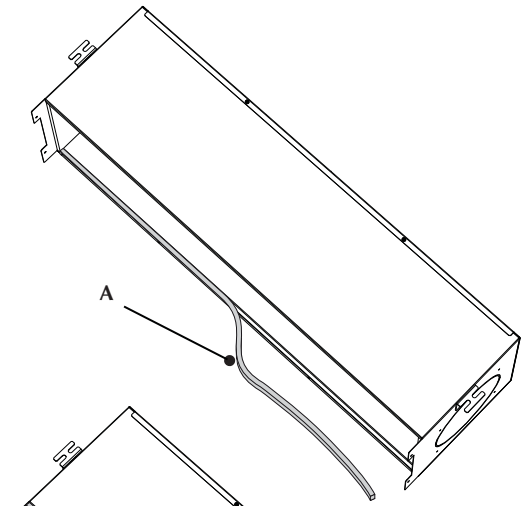

fig.1
- Stick the adhesive side of the shorter insulating gasket (A) on the internal bend of the closing panel (fig.1).
- Stick the adhesive side of the two longer gaskets (B) on the external side of the two bends. (fig.1).
- Stick the adhesive side of the shorter insulating strip (A) on the internal bend of the closing panel (fig.1).
- Stick the adhesive side of the two longer gaskets (B) on the external side of the two bends (fig.1).